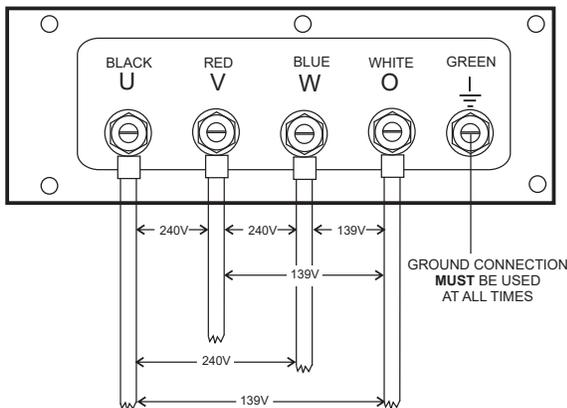

Figure 18. UVWO Terminal Lugs (3-Phase 240-Volt Connections)
2. Connect the load wires to the **UVWO terminal lugs** as shown in Figure 18.